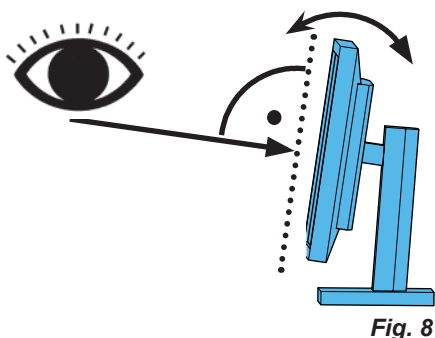

Fig. 8
- ⇒ Align the monitor (tilt, rotate using stand) so that the viewing direction is perpendicular to the monitor in all planes (Fig. 8 / 9).